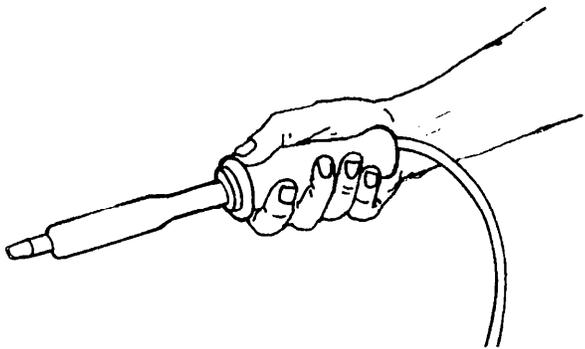

Figure 4. Hand Grip Method of Holding Soldering Copper.
- (a) The hand grip, shown in Figure 4, may generally be found applicable on horizontal terminals such as those on the vertical side of a distributing frame.